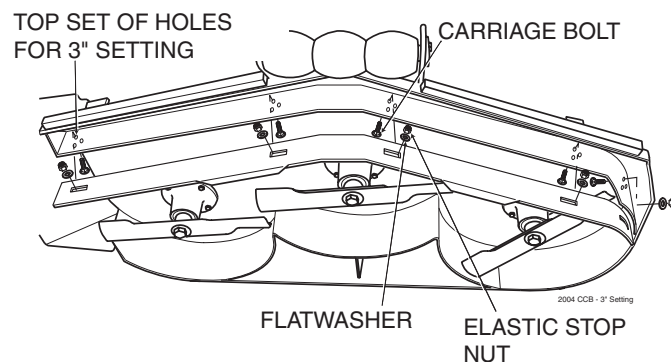

Figure 6-8. 3" Custom-Cut Baffle Position
- A. 3" Position - baffle is installed using the top set of holes on the front baffle welded inside the cutter deck. (See Figure 6.8). The Advantage cutter deck will deliver the best quality-of-cut in very tall, wiry, tough to cut grass.
3. Move the Custom-Cut Baffle to desired position. (See Figures 6.8 through 6.10 for position).